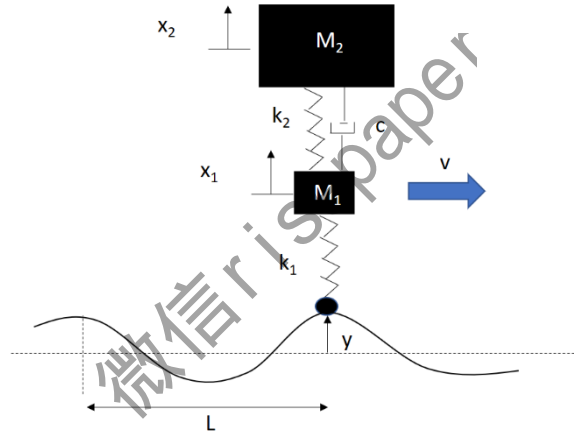

Figure Q1b
- (h) Motion of the car can be modelled as vertical displacement y of the contact point of spring k_1 with the ground (see figure Q1b). Derive the new EOM that also shows the forcing term due to ground excitation. [2%]